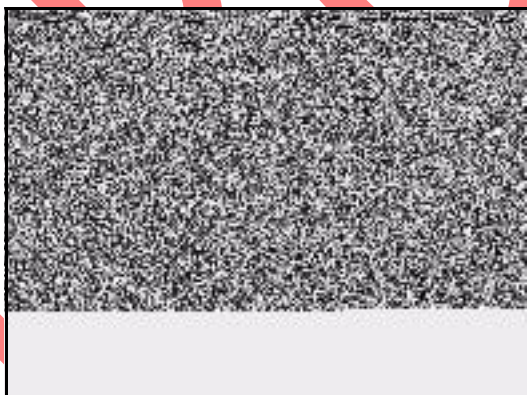

Fig. 118
4. Place new throttle shaft seal ([A] Fig. 118) on the throttle shaft (B). Insert in carburetor with throttle lever ([C] Fig. 118) set as shown.
5. Install idle speed screw ([D] Fig. 118) with spring. Turn screw until it touches throttle lever stop.
6. Place throttle plate (E) on throttle shaft with holes over shaft and secure with screw ([F] Fig. 118).